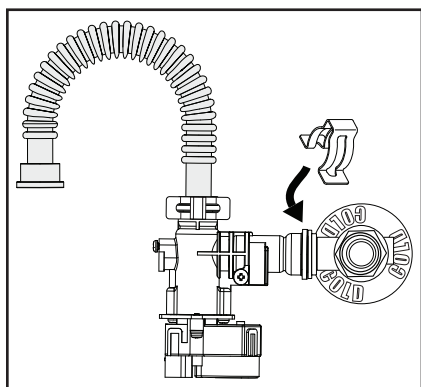

Figure 52 - Install Smart Valve to Cold T-nipple
14 Carefully install Smart Valve inlet to cold t-nipple. Remove one (1) spring clip from kit. Install spring clip over Smart Valve inlet and cold t-nipple to secure Smart Valve. See Figure 52.